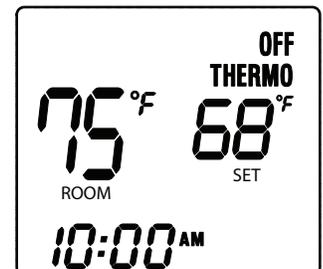

Fig. 6 Thermo Mode
**Step 2:** Press the MODE button a second time to put the to put the system in **THERMO** mode (Fig. 6).